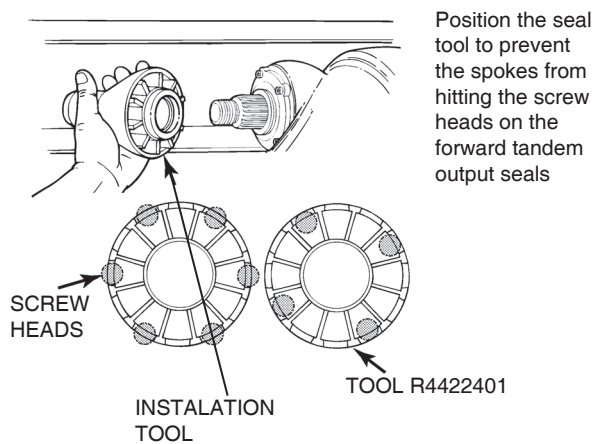

Figure 5.95
6. Position the installation tool and seal. Figure 5.95.